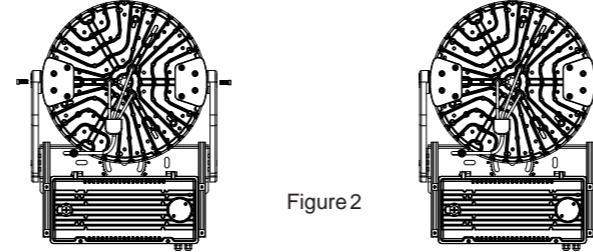

Figure 2
2. Use the screws removed as shown in Figure 1 to slightly adjust the driver box and the LED fixture (Figure 2).